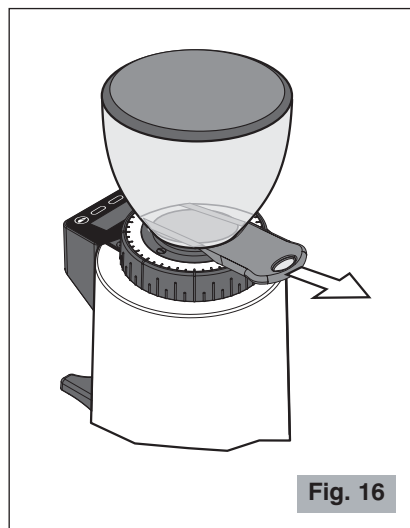

Fig. 16
**Make sure that shutter is completely open (to the last click) (see Fig. 16).**